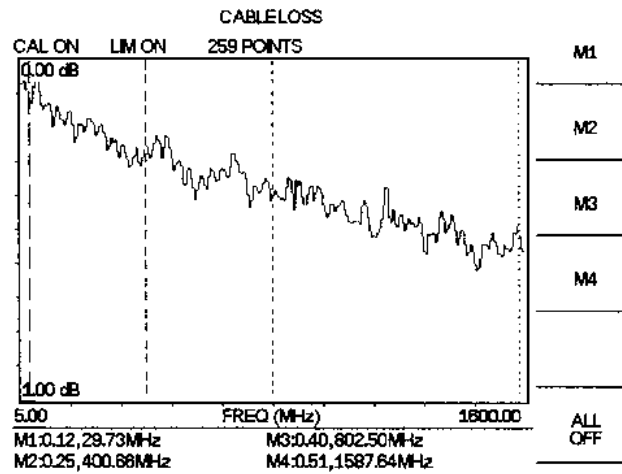

Figure 4-7. Cable Loss Measurement Results
**Step 36.** Repeat steps 34 and 35 for markers M2, M3 and M4. Set M2 to 400 MHz, M3 to 800 MHz and M4 to 1590 MHz (Figure 4-7 depicts a Cable Loss measurement).